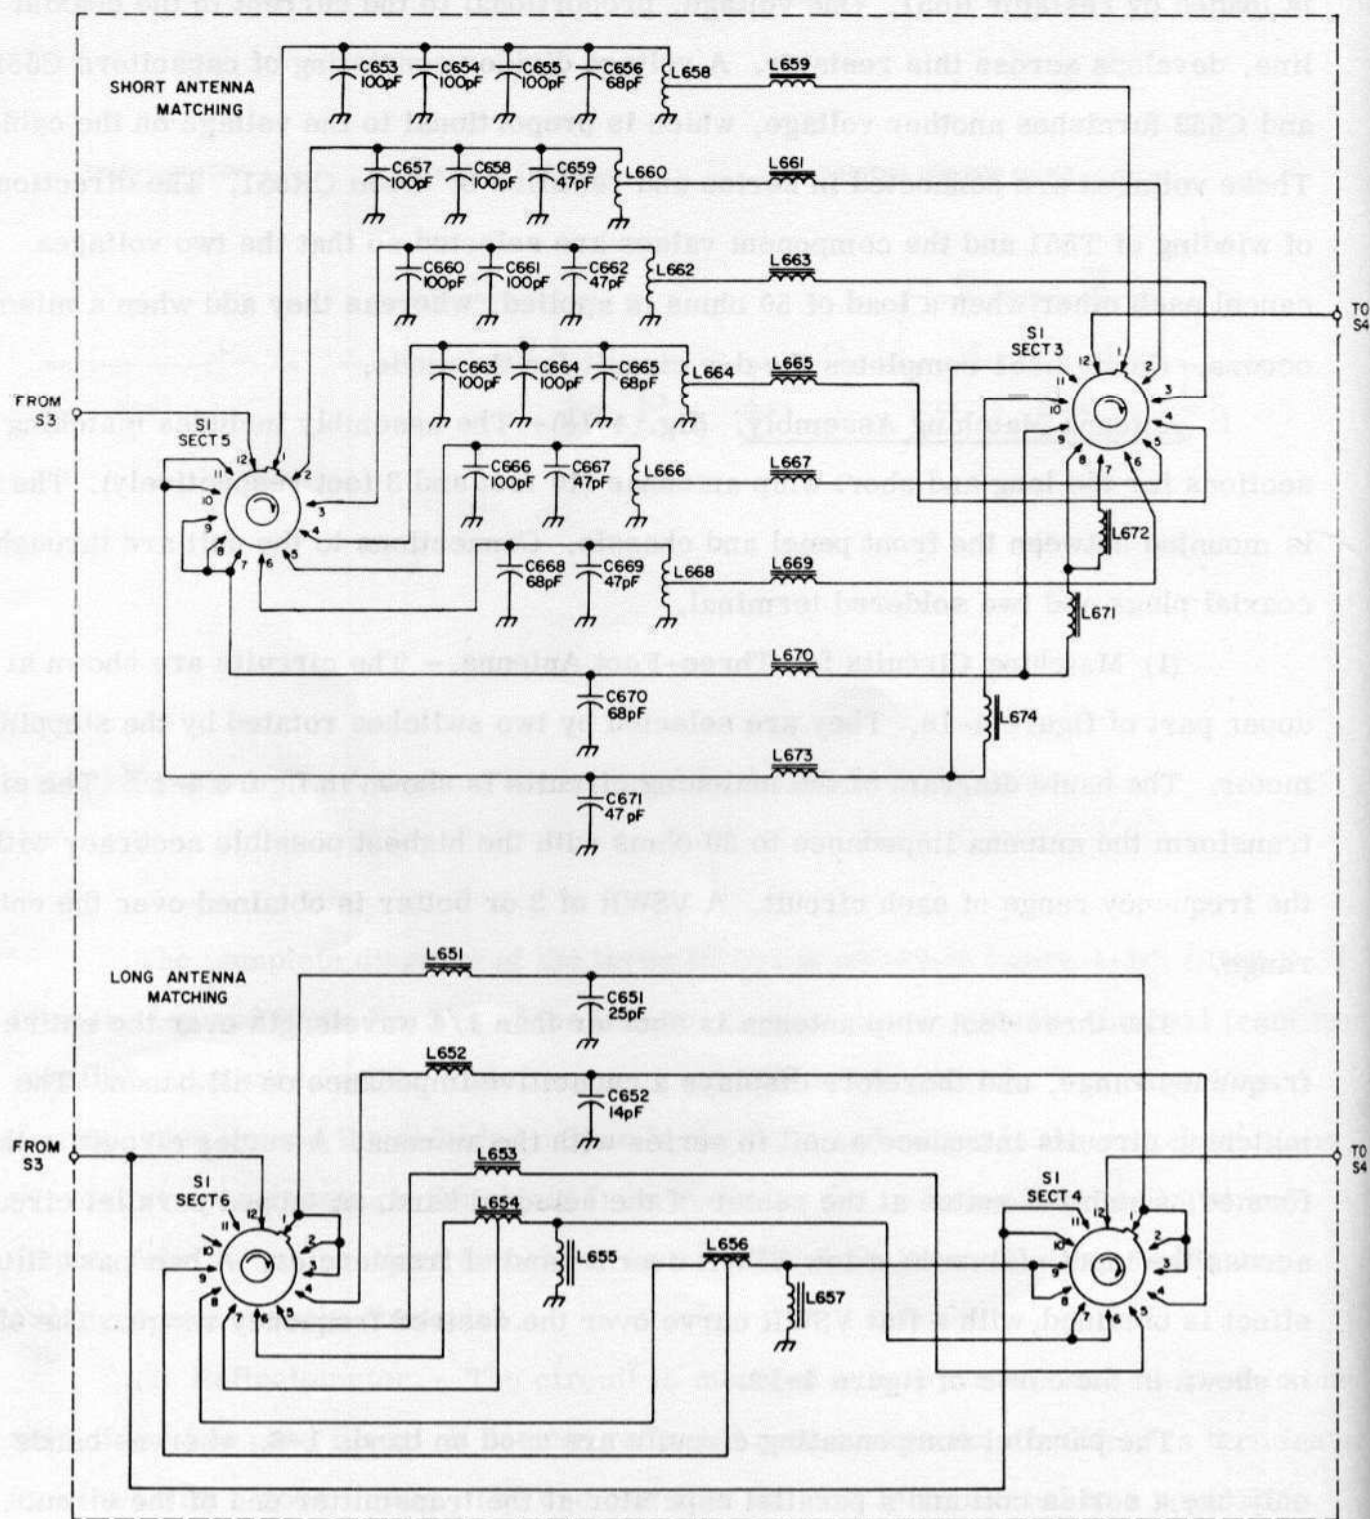

Figure 4-18. Antenna Matching Network A650, Schematic Diagram
k. Antenna Matching Assembly. (fig. 4-18)- The assembly includes matching sections for the long and short whip antennas (10 feet and 3 feet respectively). The unit is mounted between the front panel and chassis. Connections to the unit are through two coaxial plugs and two soldered terminal.
(1) Matching Circuits for Three-Foot Antenna. - The circuits are shown at upper part of figure 4-18. They are selected by two switches rotated by the stepping motor. The basic diagram of the matching circuits is shown in figure 4-19. The circuits transform the antenna impedance to 50 ohms with the highest possible accuracy within the frequency range of each circuit. A VSWR of 3 or better is obtained over the entire range.
(2) Matching Sections for Ten-Foot Antenna. - The circuits are shown at the bottom of figure 4-18. Both input and output circuits are selected by two switch sections rotated by the stepping motor. The ten-foot antenna is $1/4$ wavelength at 26 MHz, $1/2$ wavelength at 45 MHz, and $3/4$ wavelength at 70 MHz. It is therefore inductive from 26 to 45 MHz and capacitive from 45 to 70 MHz. A VSWSR of 3 or better is obtained over the entire band.